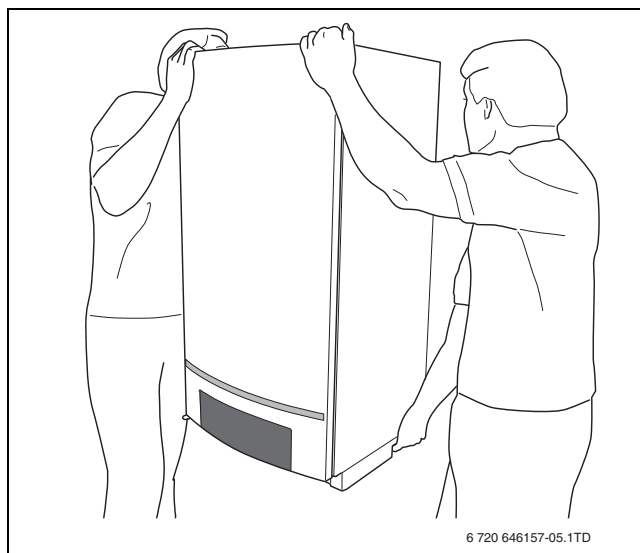

Fig. 6 Lift and carry the boiler correctly
- Always lift and carry the boiler with 2 people as shown in fig. 6, or use a hand truck or special equipment.
- ▶ With 2 people, lift the boiler by holding it by its back and by the transport rail at its bottom and install it on the wall bracket (→ fig. 6, page 10).